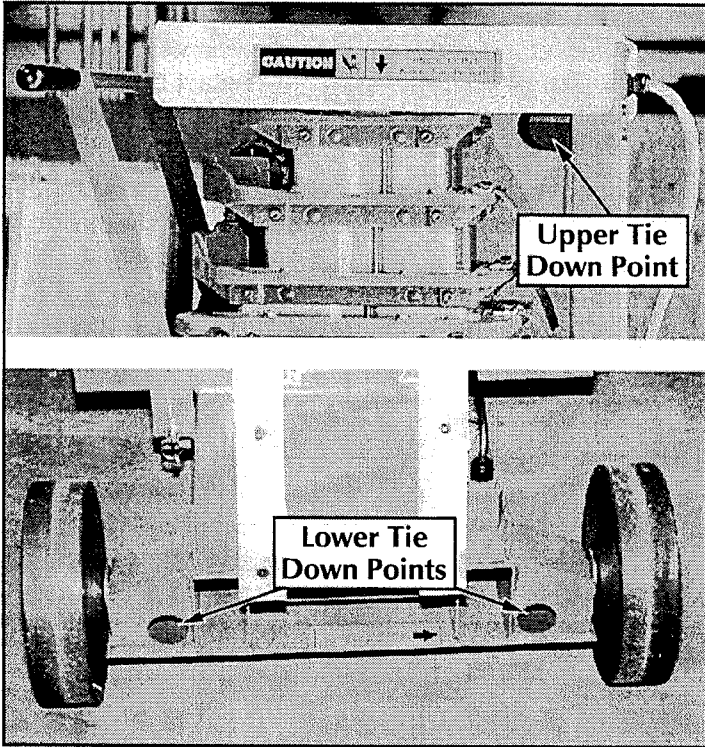

Figure 3-7: Tie Down Points
8. Secure the unit with suitable strength rope or tie straps using the tie down holes located on the base of the unit and at the top of the cage support member, Figure 3-7.